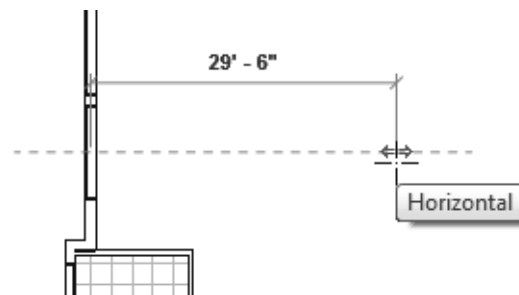

Figure 2–79
2. When you are modeling (not editing) a linear element, how do you edit the temporary dimension, as that shown in Figure 2–79?